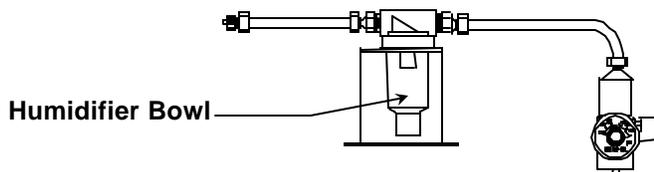

Figure 7: Calibration Adapter with Humidifier
- If your calibration kit is supplied with a humidifier, fill the humidifier bowl half way with clean tap water. See **figure 7**